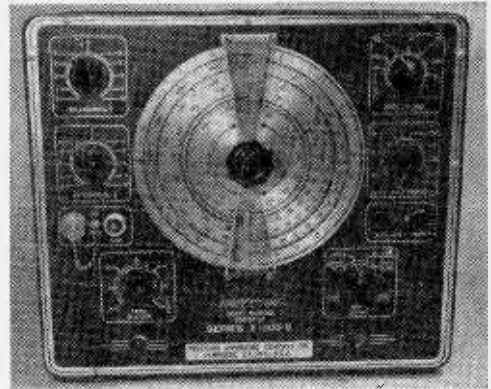

Fig. 10. Front panel of the Precision signal-marking generator showing control knobs.
**RF Generator.** The radio-frequency generator, like the one in Fig. 10, is used for checking and aligning radio and TV equipment. Its coverage commences where the audio generator leaves off. (It is economically impractical to construct a single instrument to include the large frequency swing from a few cycles per second to hundreds